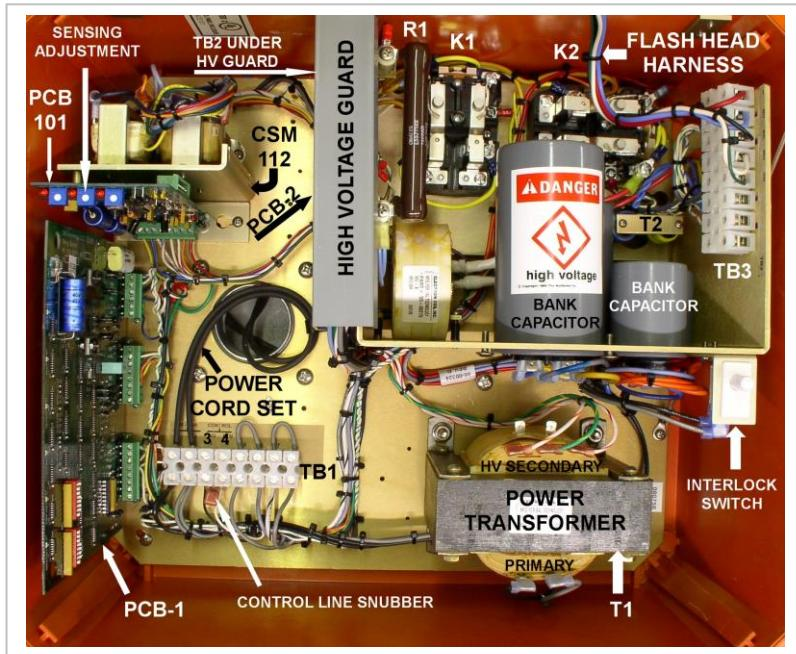
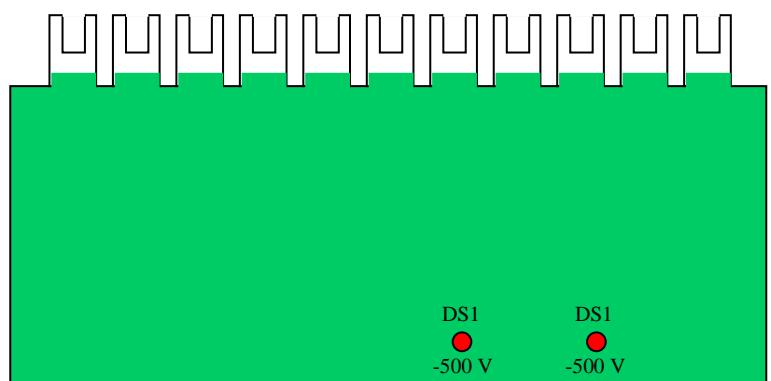

Figure 9
Figure 12
- Check screw tightness on TB1 and TB3 (8-position terminal blocks; See Figure 9 for locations). Check every position that has a wire connection whether to external wiring or to internal circuits.
It is important to know where the major components are located, especially when attempting to follow troubleshooting procedures. Use Figures 9 and 10 for this information. A slave power supply does not have a CSM 112 Current Sensing Module; it is otherwise identical to a master power unit.
Each power supply has two circuit boards with indicator lights that can be used to interpret operating conditions. PCB-1 is the Timing and Control circuit board. Its location is shown in Figures 9 & 15. It has seven red LEDs, but only five of these apply to standard functions. DS1 and DS2, labeled Monitor and Confirm, are used only when the Monitoring option has been elected at the time of purchase. SW1 and SW2 are programming switches.
PCB-2 (High Voltage Rectifier Board) does not show in Figure 12, but its location beneath the High Voltage Guard is noted. Two LEDs, DS1 & DS2, on PCB-2 (Figures 9 & 15) are in prominent view for safety and troubleshooting. These LEDs are high voltage indicators, and both must be lit for normal operation. They will extinguish soon after power is removed. Many older PCB-2 circuit boards have neon lamps for DS1 & DS2.